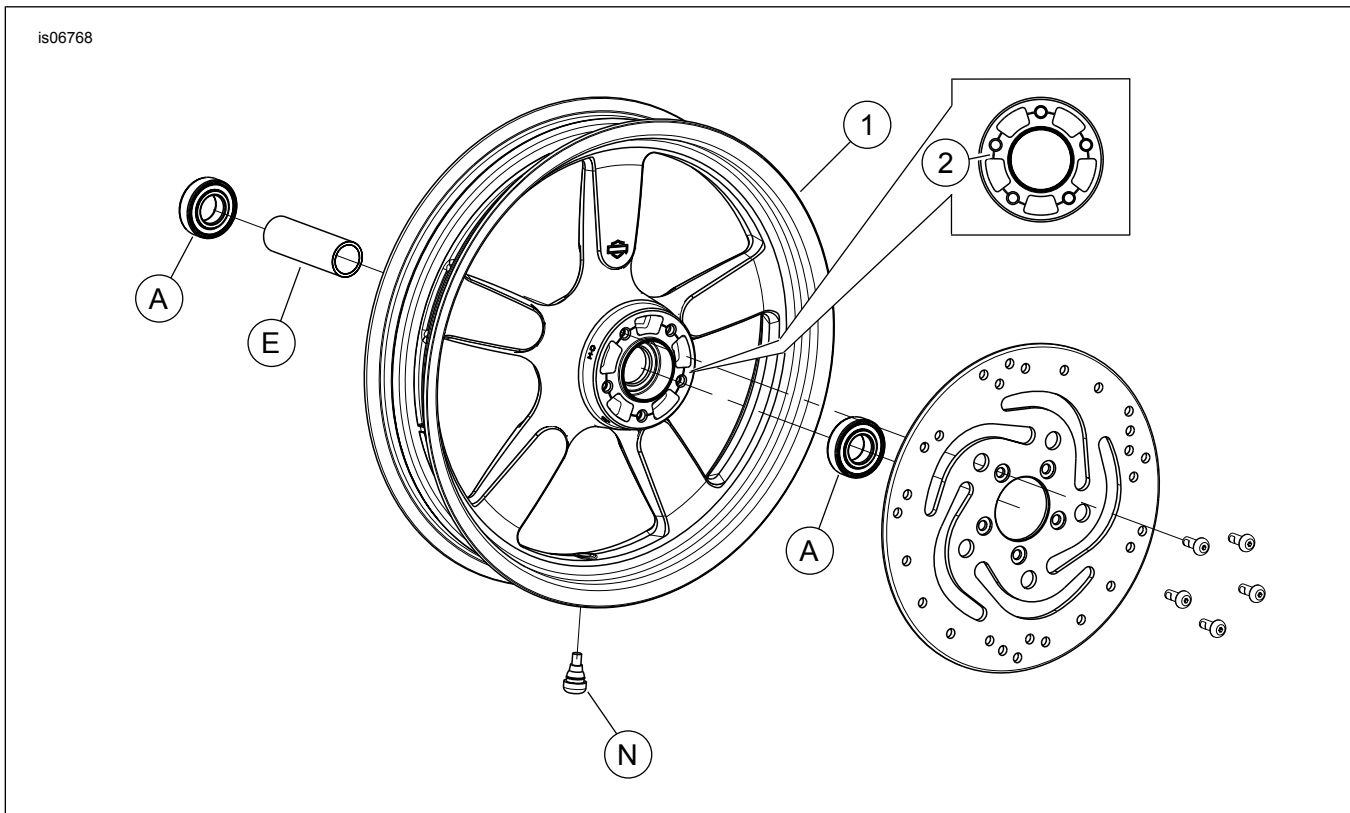

Figure 2. Service Parts: Front Fat-X Wheel
This kit includes the custom wheel only. See Figure 2 and Table 2
- See Figure 2. Install valve stem assembly (N) on wheel. Refer to TIRES in service manual.